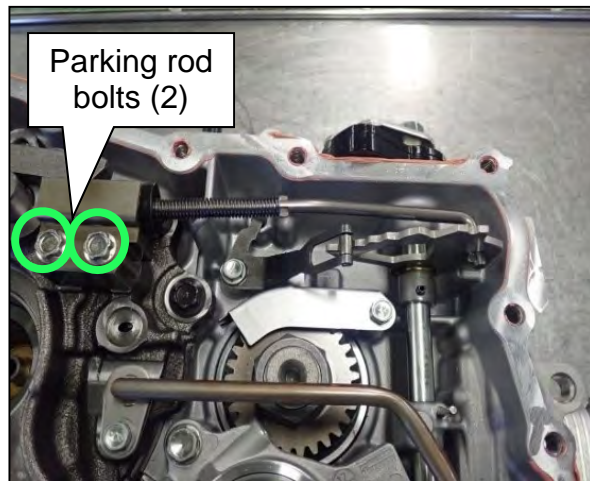

Figure 179
- c. Install the two (2) parking rod bolts (Figure 179).